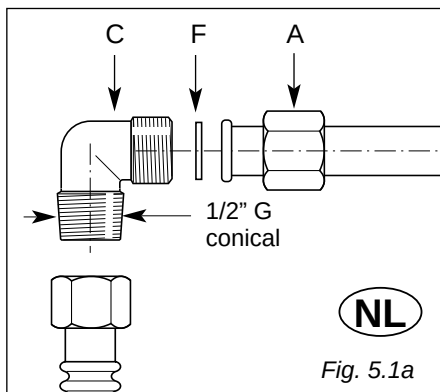

Fig. 5.1a
- ✓ The seal F (fig. 5.1a - 5.1b - 5.1c) is the element that guarantees the seal in the pipe-ramp connector. It is recommended that it be replaced whenever it shows even the slightest deformation or imperfection.